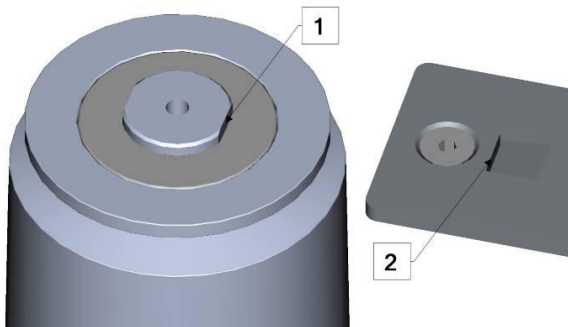

Figure 5 Pulley notch
NOTE Make sure flat side of shaft (1) is correctly aligned with tab on ETU housing (2). Refer to Figure 5.